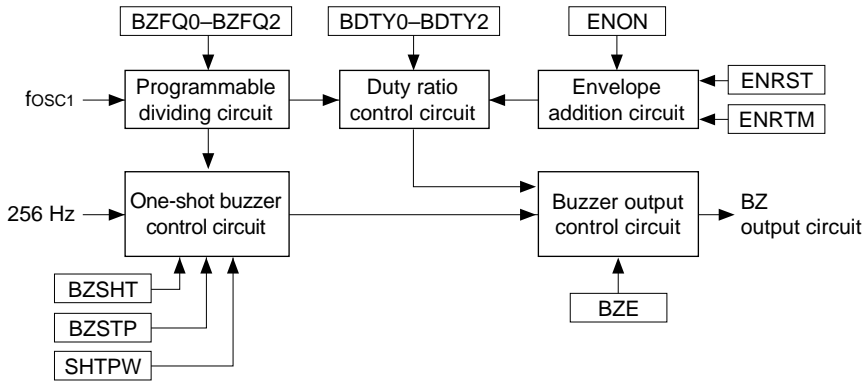

Fig. 4.12.1.1 Configuration of sound generator
The E0C63466 has a built-in sound generator for generating buzzer signals. Hence, generated buzzer signals (BZ) can be output from the BZ terminal. Aside permitting the respective setting of the buzzer signal frequency and sound level to 8 stages, it permits the adding of a digital envelope by means of duty ratio control. It also has a one-shot output function for outputting key operated sounds. Figure 4.12.1.1 shows the configuration of the sound generator.